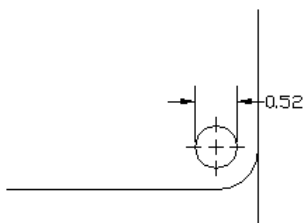

**Figure 15-16:** A narrow dimension using the Both text and arrows option.
- ♦ **Both Text and Arrows:** Keeps the text and arrows together — between the extension lines if there is enough room, and outside the extension lines if there is not. Figure 15-16 shows a dimension using this option.